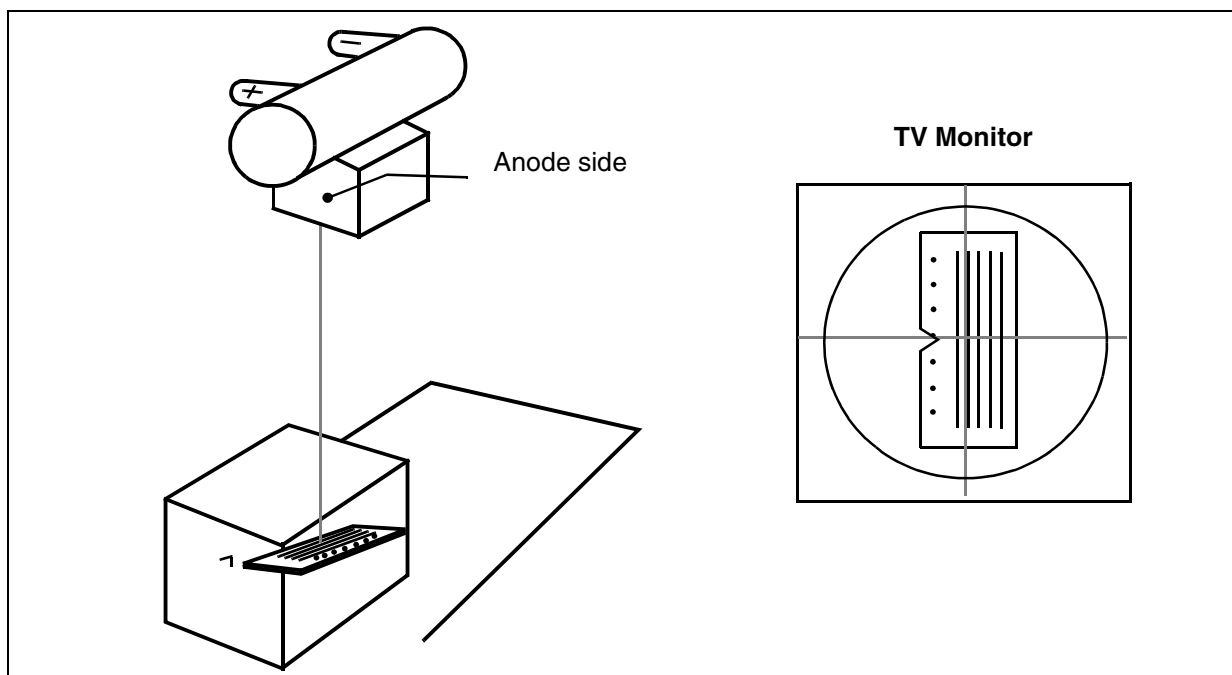

Fig. 4
- Position the focus test parallel to the table longitudinal axis, see Fig.4.